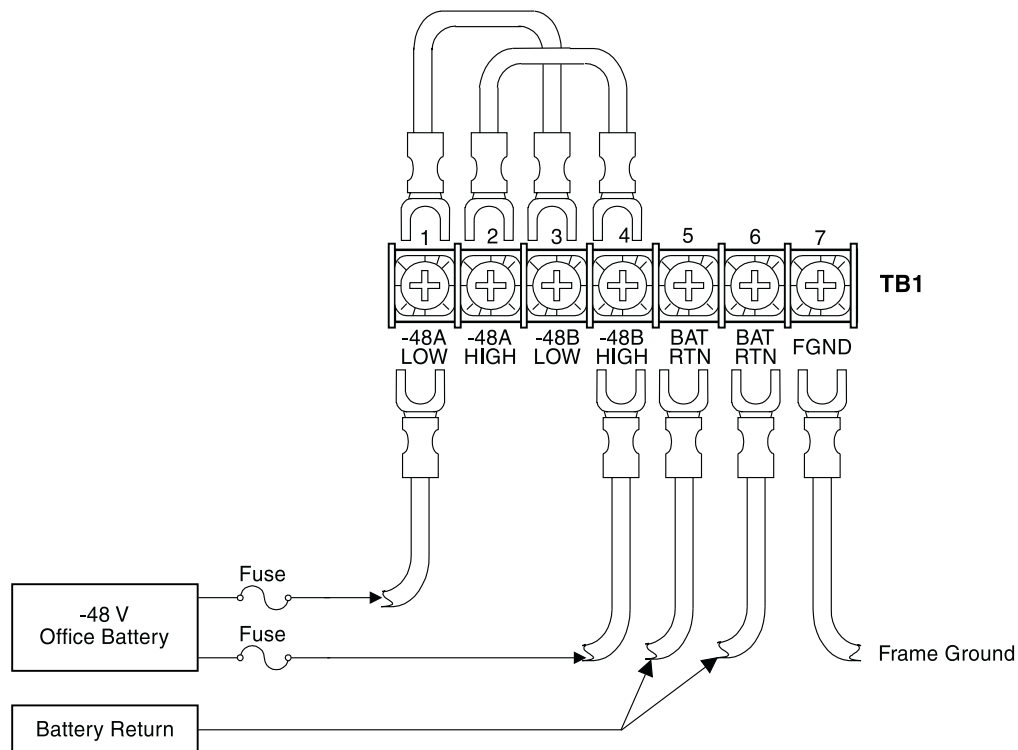

Figure 8. Split-Shelf Wiring
- 3 Connect a wire from the –48A-LOW terminal of TB1 (see Figure 8) to the CO A battery supply at the fuse panel.
- 7 Use a short jumper wire to connect the –48 A-LOW and –48 B-LOW terminals of TB1. Make this connection at the top of the terminal block as shown in Figure 8.
- 8 Use a short jumper wire to connect the –48A-HIGH and –48B-HIGH terminals of TB1. Make this connection at the top of the terminal block as shown in Figure 8.